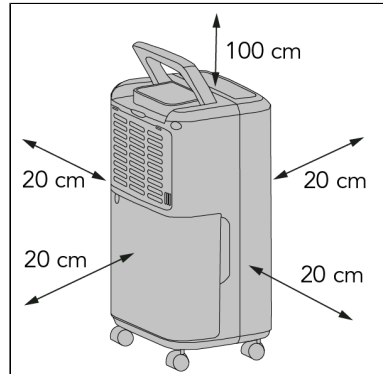

Figure 17.
2. Keep the following minimum distances to ensure proper air circulation of the unit (Figure 17\*):